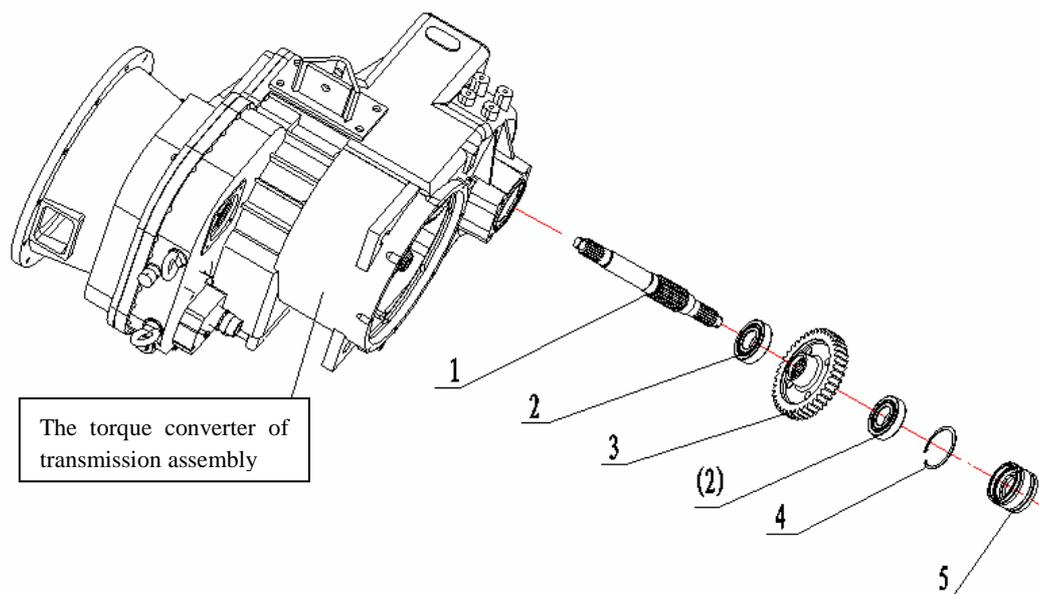

Figure 9
28. Assemble the output axis assembly (refer to the Figure 9)